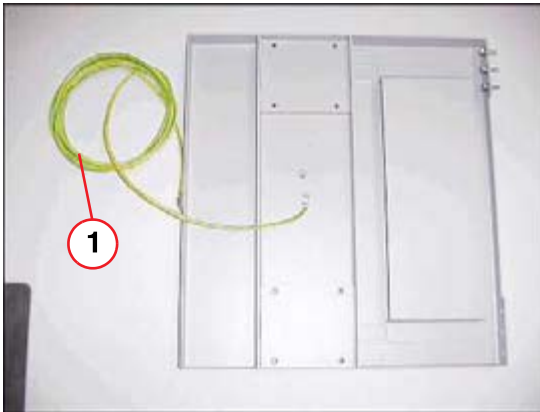
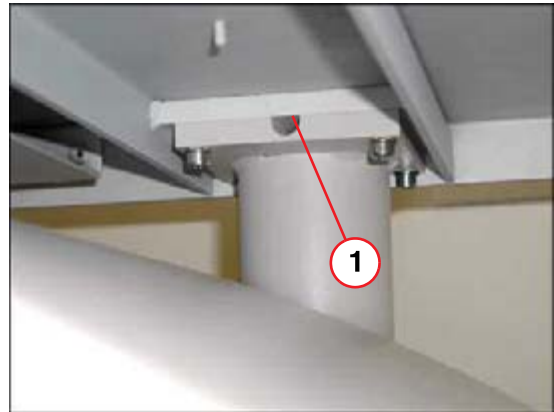

Fig. 69: Endo shelf installation
Fig. 70: Endo shelf installation
- Prior to assembly of the shelf, the ground wire (1/Fig. 69 / p. 64) and the supplied 20-meter cable (3 x 1.5 mm²) must be passed through the flange tube (1/Fig. 71 / p. 64). The cable lead-in is shown in (1/Fig. 70 / p. 64).
- After the cables are led in, the flange tube (1/Fig. 71 / p. 64) is fastened to the shelf bottom (Fig. 70 / p. 64) via the supplied screws (M6 x 25) and washers.